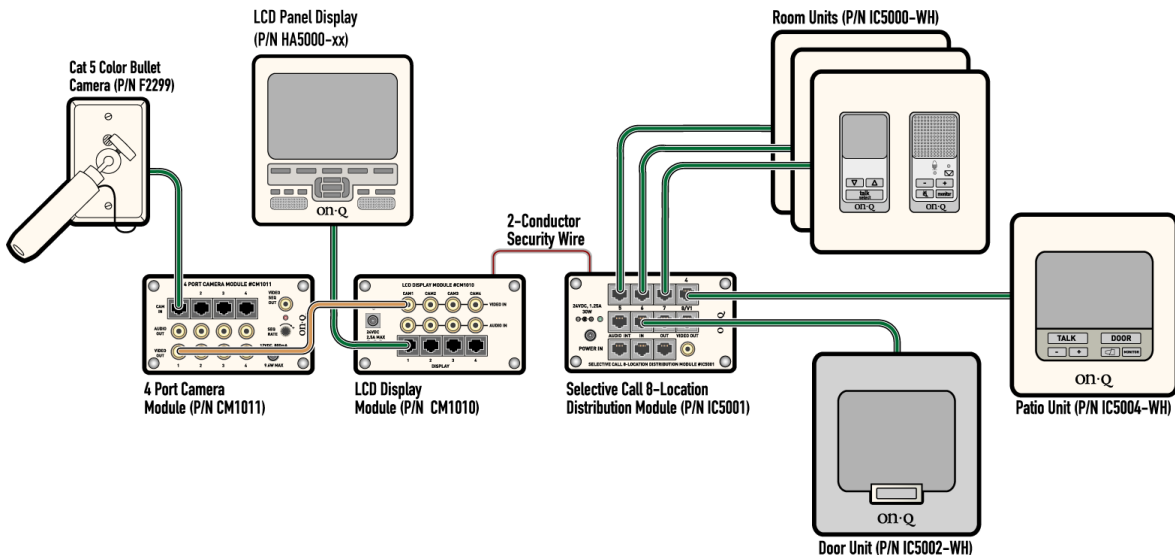

Figure 6
7. **Figure 6** shows the optional 2-conductor wiring run between the CM1010 LCD Module and the SCI Module (IC5001). This wiring is used to wake up the LCD Panel Display and show images from whatever is connected to input #1 (in this case the front door camera) when someone presses the SCI Door Unit doorbell.